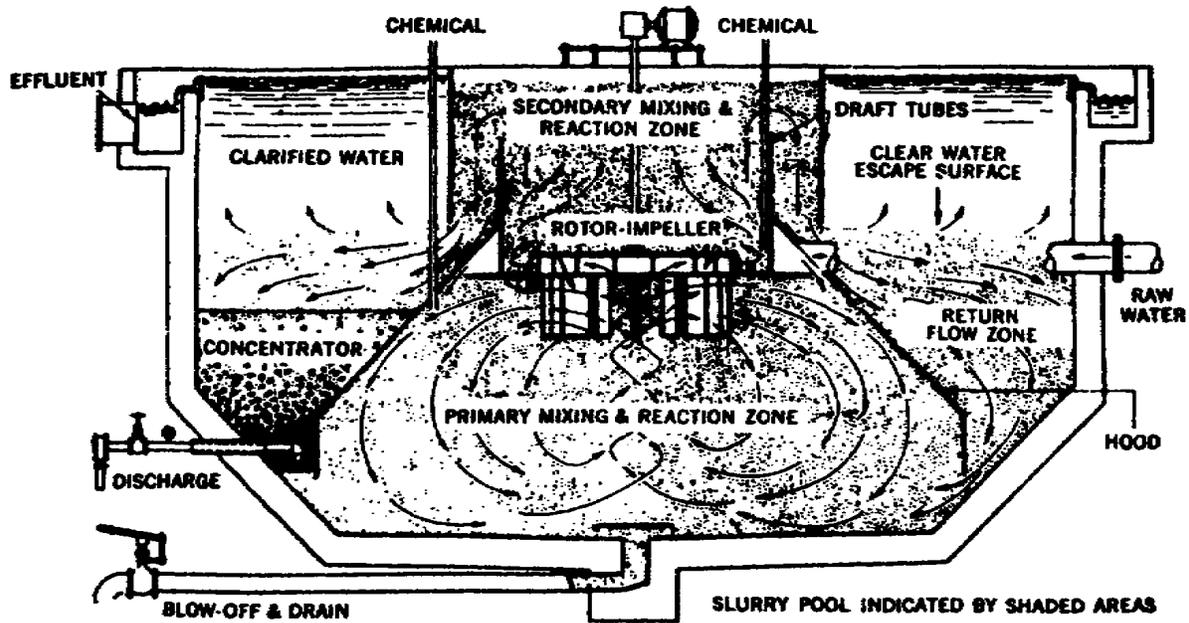

Figure 71. Accelerator.
16. The Accelerator, shown in figure 71, is a suspended solid clarifier. Precipitates which are formed are kept in motion by a combination of mechanical agitation and hydraulic flow. Velocity of waterflow through the system is controlled to keep precipitates in suspension at a level where water passes through them. The accumulated